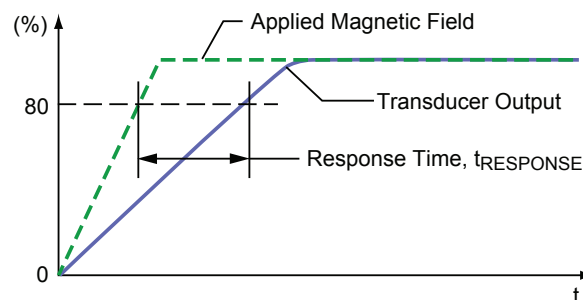

Figure 3: Response Time definition
**Response Time ( $t_{RESPONSE}$ )** The time interval between a) when the applied magnetic field reaches 80% of its final value, and b) when the sensor reaches 80% of its output corresponding to the applied magnetic field (see Figure 3).